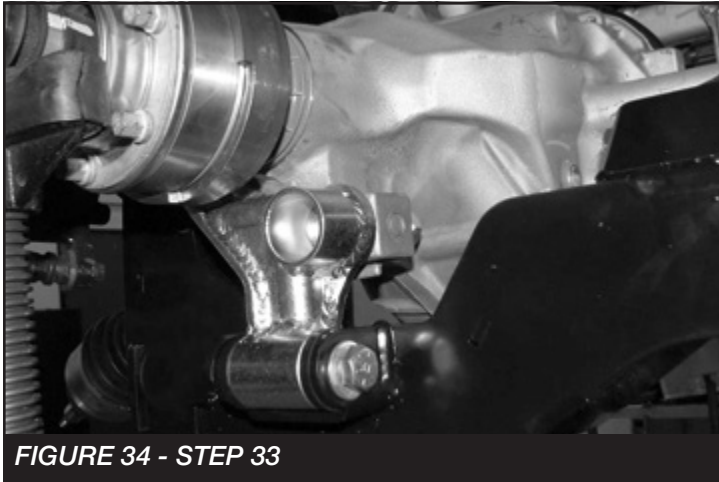

FIGURE 34 - STEP 33
33. Install a ½-13x2 bolt, washers and nut through the bracket and diff. Torque the bolt in the diff to 90 ft-lbs and the bolt in the crossmember to 90 ft-lbs. **SEE FIGURE 34**